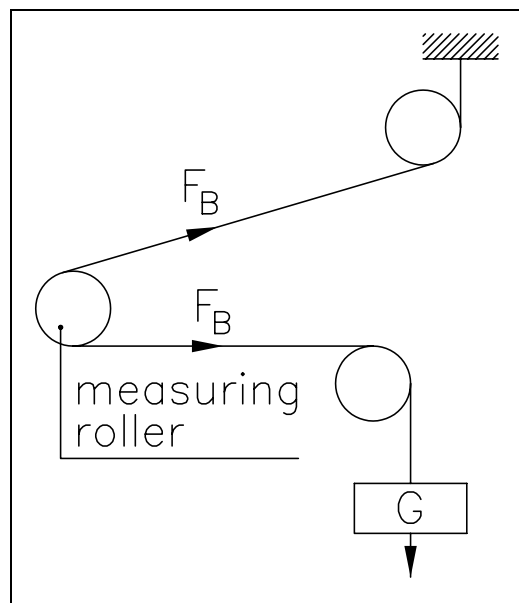

fig. 10: Calibrating the measuring amplifier
The following instructions are referring to a setup and calibration on-site. The material tension will be simulated by a weight (fig. 10).
- Load material or rope with a defined weight (fig. 10)